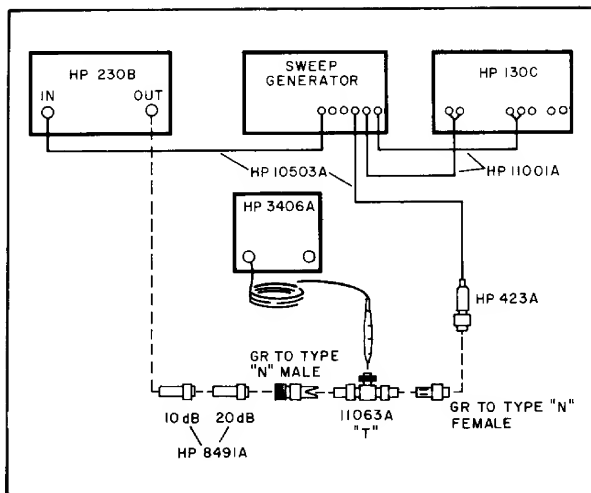

Figure 5-2. 230B Bandwidth Test Setup
- a. Connect equipment as shown in Figure 5-2.